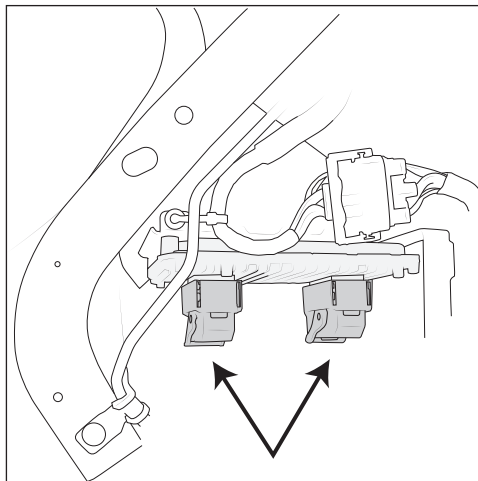

Figure 11
- a. Unplug the two connectors attached to the PCM (Fig. 11).